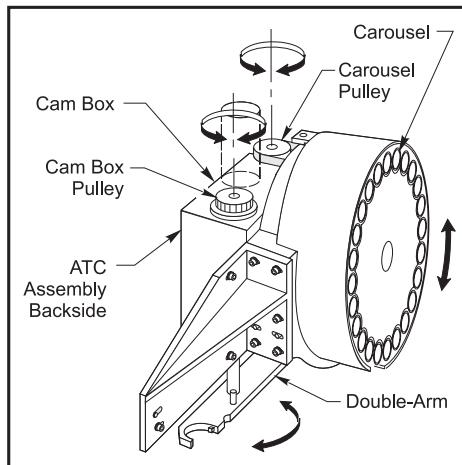
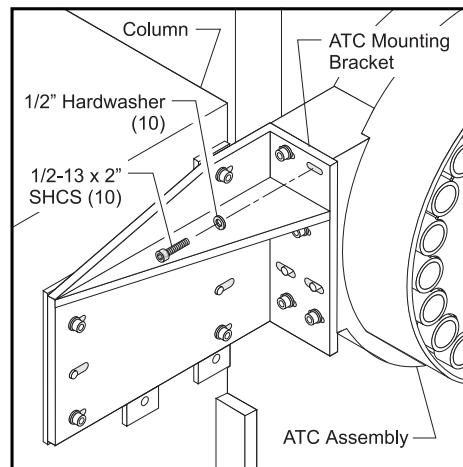

Figure 3-64 Pulley locations and ATC movement
Figure 3-66 ATC Mounting Bracket
3. Install each tool holder through the spindle. Attach the tool pocket to the carousel. Apply blue loctite to the FHCS and torque to 7 ft-lbs (1/4-20) / 18 ft-lbs (5/16-18). Manually rotate the carousel for each tool pocket installation. Re-install the pocket stop and slider. Refer to Figure 3-64. The carousel can be rotated by manually rotating the carousel pulley by hand. See Figure 3-64.
4. Insert an eye-bolt into the threaded 1/2-13 hole at the top of the carousel housing. Attach the lifting device to the eye-bolt and support the ATC assembly (Refer to Figure 3-64). Remove the five carousel mounting SHCS from the ATC mounting bracket and move ATC assembly away from the column (Refer to Figure 3-66).